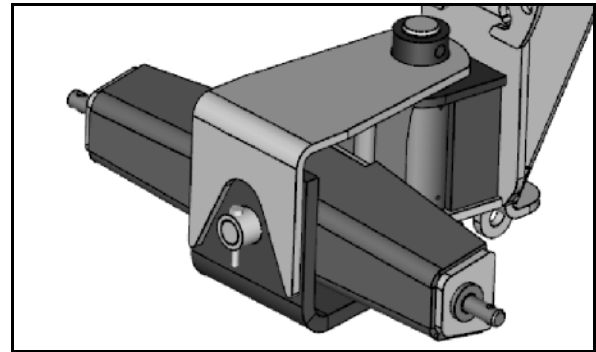

Fig. 21
- Stand lowered when the machine is uncoupled (Fig. 21/1).
Raising and lowering stand (Fig. 21/1):
1. Release spring clip (Fig. 21/3).
2. Pull out pin (Fig. 21/2).